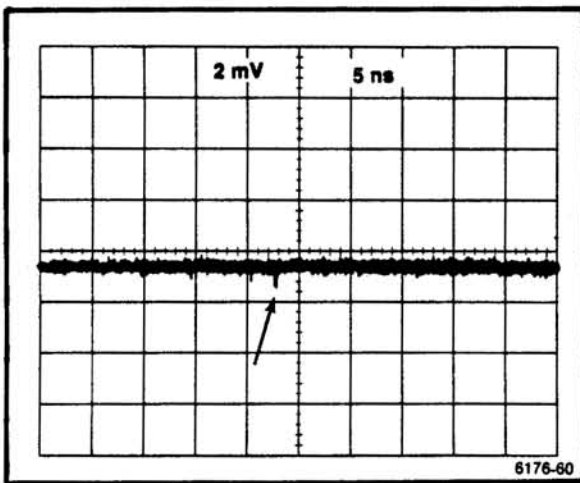

Figure 5-5. Typical display of trigger kickout.
c. **CHECK**—the trigger kickout pulse to be no more than  $\pm 2$  mV (see Figure 5-5).